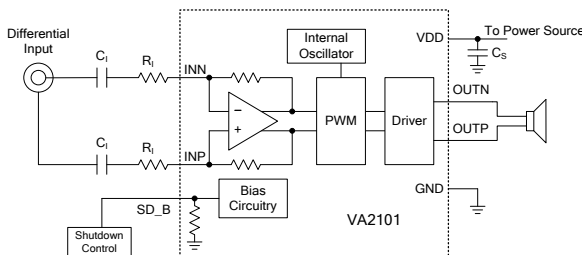

Figure 2. Differential Input Configuration with Input Capacitors
The input capacitors may be needed for some applications or when the source is single-ended (See Figure 2). These capacitors will not only block the DC voltage at the amplifier input terminal but also create a high-pass filter together with the input resistors R_i . The cut-off frequency of the high-pass filter is calculated according to the following equation:
If necessary, the input capacitors can be also used in the differential input configuration shown in Figure 2. The reason to do so is usually to create the high-pass filter in audio signal input. In case of applying the high-pass filter, equation (1) listed above shall be used to find out the value of the R_i for a proper gain and then using equation (2) to